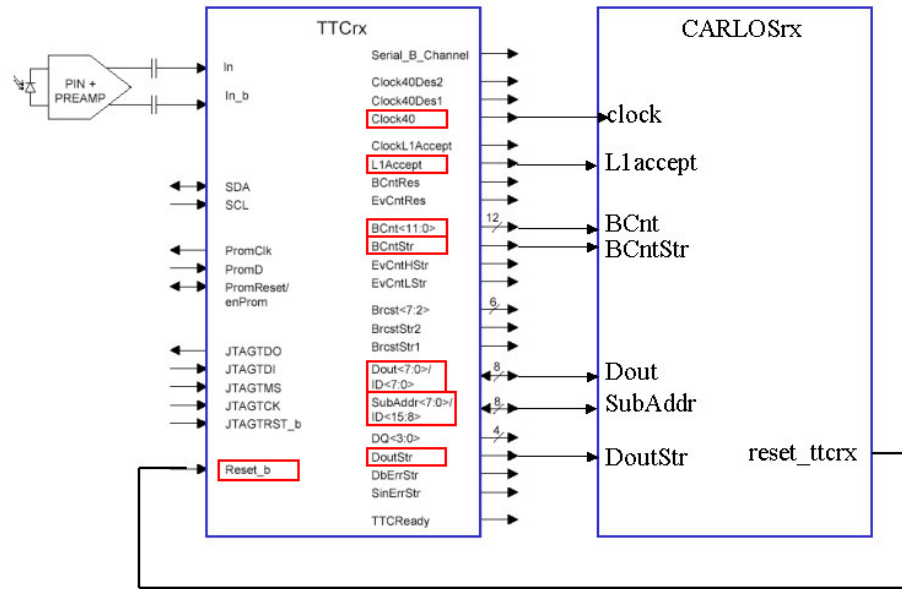

Fig. 4: TTCrx – CARLOSrx connections
- *L1-L2*: information sent using the TTC system (TTCvi, TTCex, TTCrx). The TTCex and TTCrx boards are connected through a 60m optical fiber. CARLOSrx receives the following information from the TTCrx (see Fig. 4):